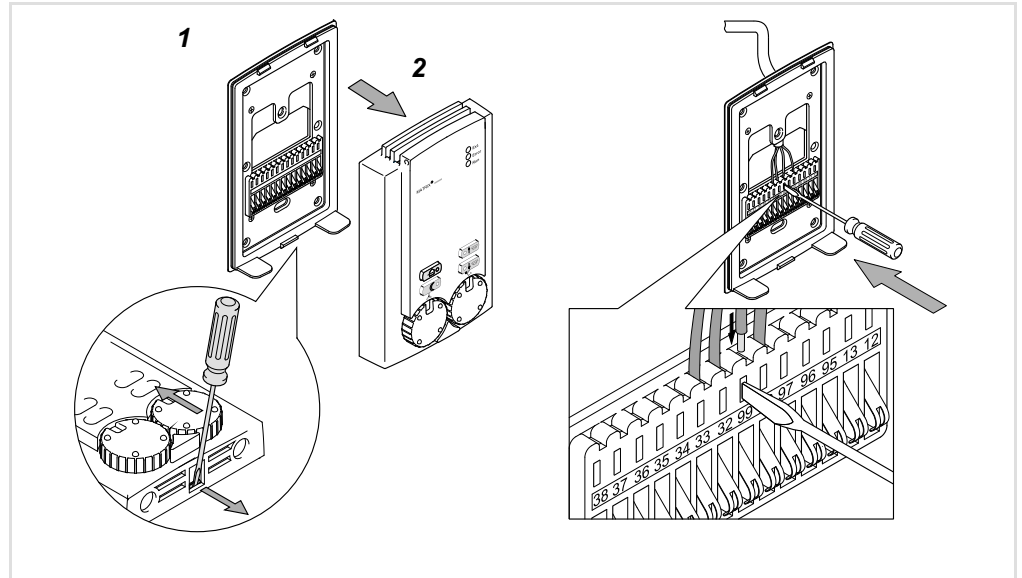

Fig. 6-17: Opening the controller
- Using a screwdriver remove the top section from the rear of the controller as shown in Fig. 6-17 and remove the top part of the mounting plate upwards.
- Pull the cable connecting the unit’s electrical enclosure with the controller through the hole in the mounting plate (see Fig. 6-17) and connect all its cores to terminals.
- First loosen the terminals using a suitable screwdriver (see Fig. 6-17) and connect the respective cores to the terminal openings provided. The terminal spring will secure the cable in place once you remove the screwdriver.